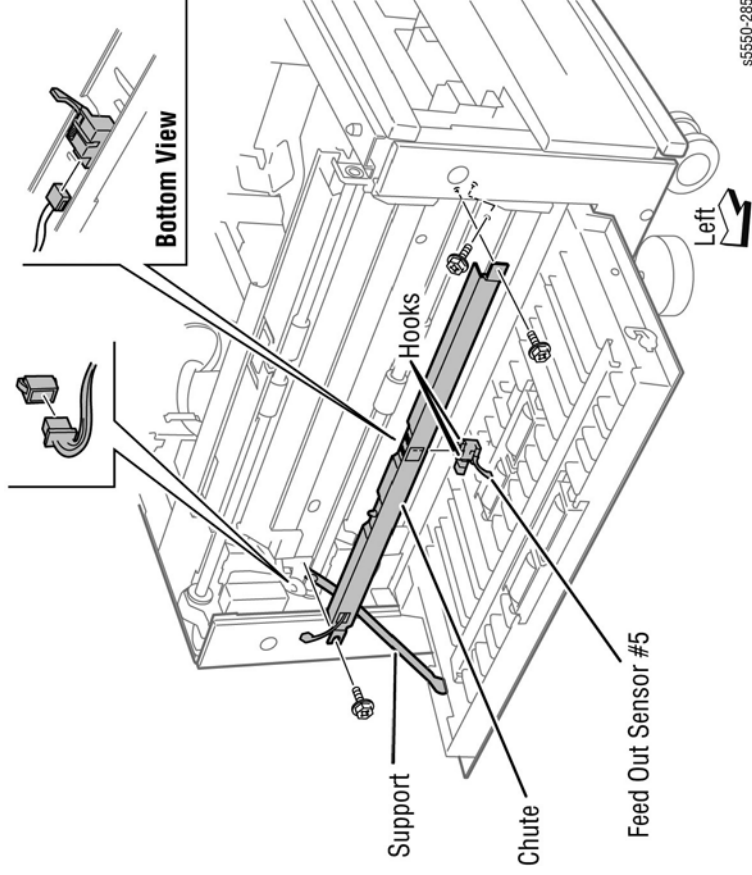

Figure 1 Removing the Tray 5 Feed Out Sensor #5
4. Release the hooks securing the Feed Out Sensor #5 to the Chute as shown in Figure 1.